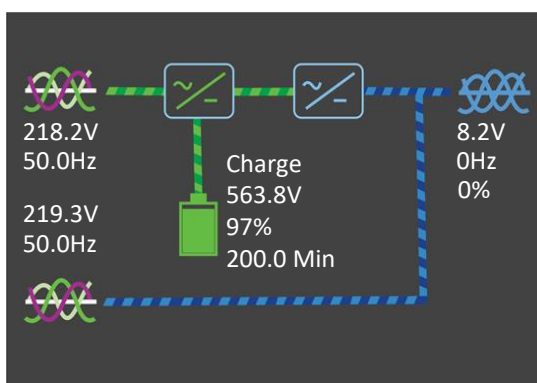

Figure 5-2 Flow Page
4. The system is currently powered on, and the UPS internal cooling fan starts. The rectifier executes self-check and starts to run. The rectifier runs in normal state for approximately 30 seconds, after which the rectifier start-up phase is complete. See Figure 5-2 for power flow page.